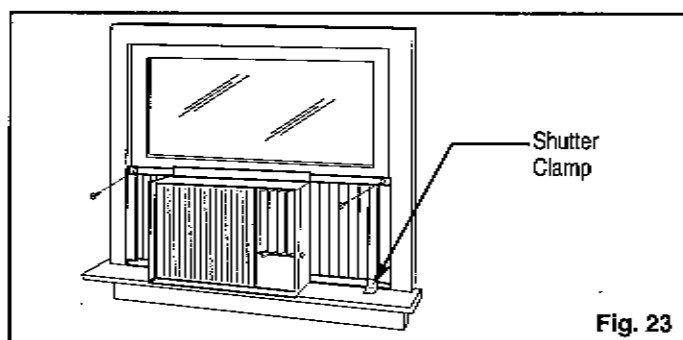

Fig. 23
- Expand the shutter frames (fully) on each side and secure the top of the frames to the window sash using one 3/4" screw & flat washer on each side. Fig. 23
- Install shutter clamp on each side of the (lower) shutter and secure to window sill using one 3/4" screw & flat washer on each side. Fig. 23